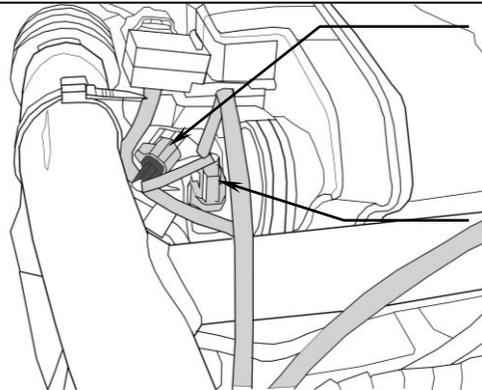
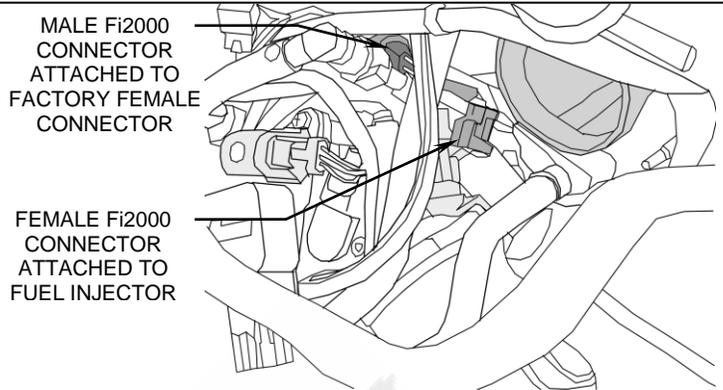

FIGURE 1: LEFT SIDE INJECTOR
FIGURE 2: RIGHT SIDE INJECTOR
3. Unplug the factory fuel injector connector on the right side and attach the matching Fi2000 connector from the longer Fi2000 harness onto the right side injector. Plug the original injector harness connector into the black Fi2000 connector and tuck that connector up and out of the way, so that the air intake boot may be re-installed, see Figure 2. Repeat this procedure for the left side injector, see Figure 1.